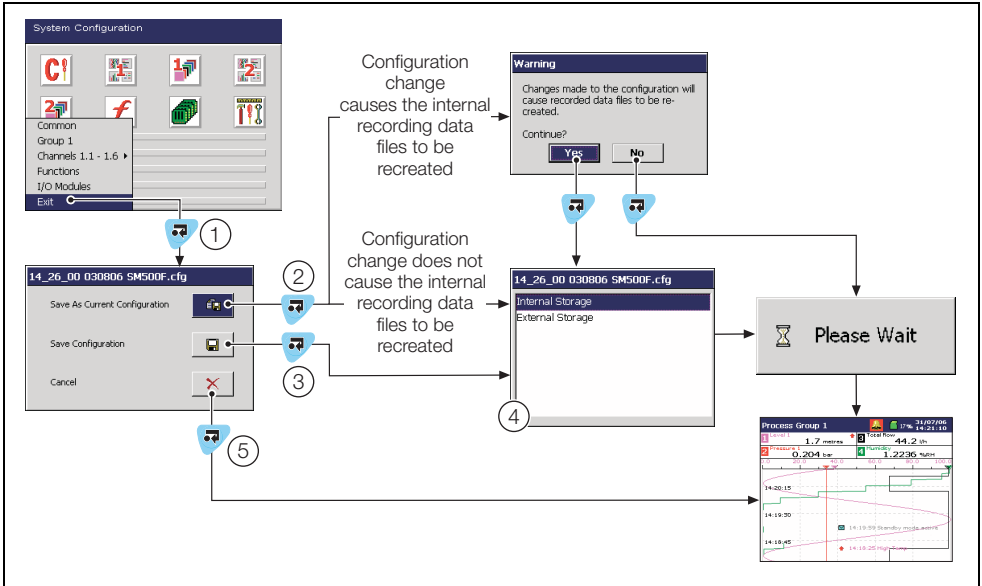

Fig. 7.7 Exiting Configuration Mode
Referring to Fig. 7.7, page 73, exit configuration mode as follows:
- Changes to the date and time are effective immediately upon selecting 'OK' in the dialog box. Select 'Cancel' in the dialog box to exit date and time setup without saving changes. Selecting 'Cancel' upon exiting Configuration Mode (see Fig. 7.7, page 73) **does not** reset the clock to its previous setting.
**Note.** Changes to daylight saving are effective immediately a method is selected. However, if 'Cancel' is selected upon exiting Configuration Mode (see Fig. 7.7, page 73), the last saved daylight saving settings are restored.